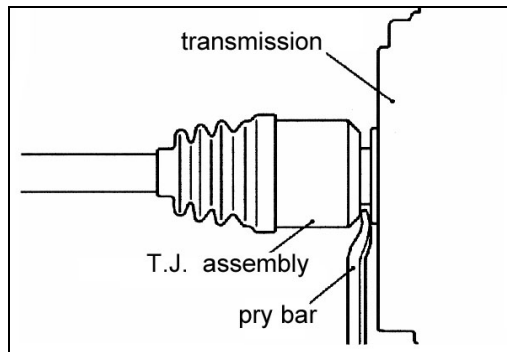

Fig.12-24
- b. Insert a pry bar between the transmission case and the drive shaft and remove the drive shaft from the transmission . (see Fig.12-24、 12-25)。